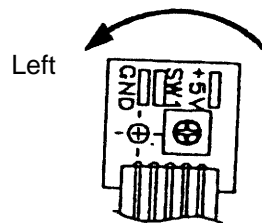

Fig. 30
(2) Adjust the bending accuracy as follows (Fig. 30).